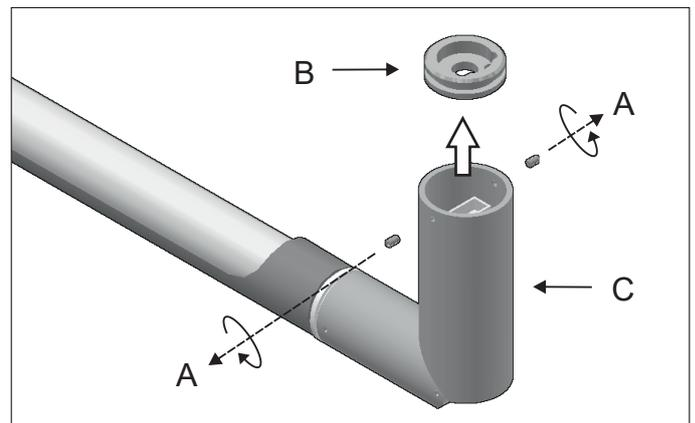

Figure 1
1 - Unscrew the side studs (A) to remove the mounting bracket (B) from the tube (C). Figure 1.